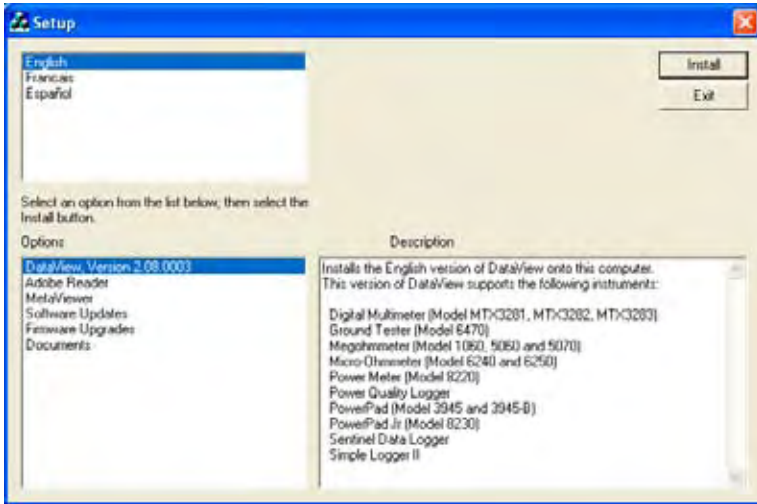

Figure 5-1
2. A **Set-up** window, similar to Figure 5-1, will appear.